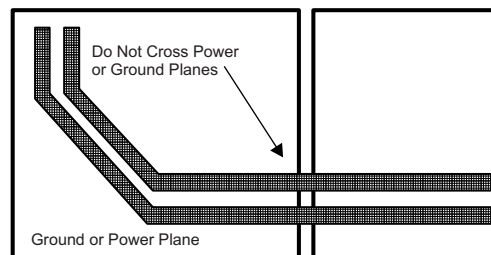

Figure 14. Differential Signal Pair – Plane Crossing
- Signal traces should not be run such that they cross a plane split. See Figure 14. A signal crossing a plane split may cause unpredictable return path currents and would likely impact signal quality as well, potentially creating EMI problems.